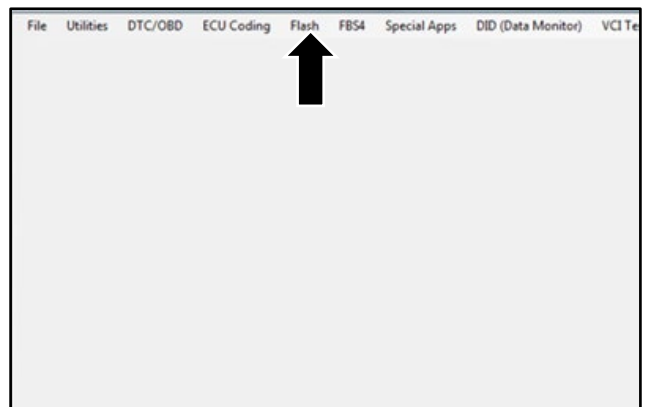

Figure 5
12. Select “Flash” (refer to Figure 5).